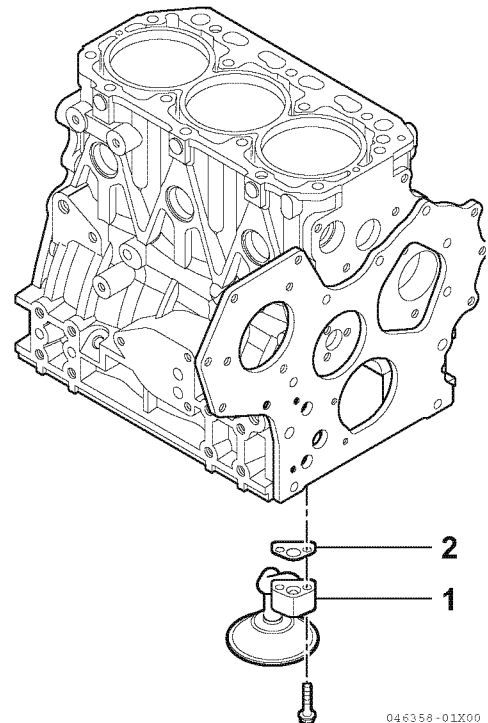

Figure 6-46
3. Remove the oil pickup tube (1, **Figure 6-46**) and the gasket (2, **Figure 6-46**).